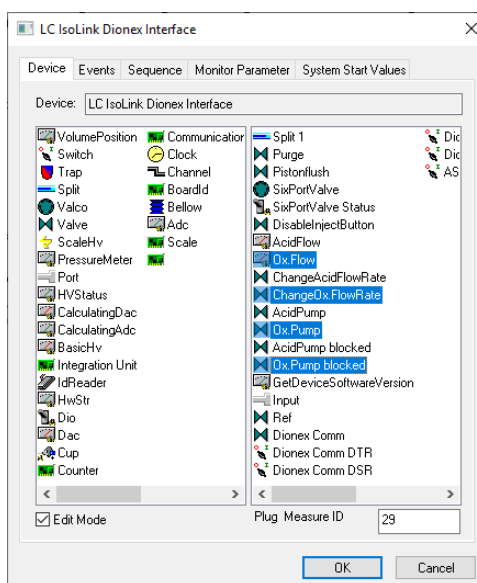

Figure 5-5. LC IsoLink Dionex Interface dialog: change oxidation pump COM ports
7. Change all acid pump objects from COM3 to COM5, see Figure 5-5:
8. Change the oxidation pump related objects from COM4 to COM6, see Figure 5-5.
- c. Change the COM port for the Oxidation Pump. All device objects highlighted in blue color Figure 5-5 must be set to COM6.